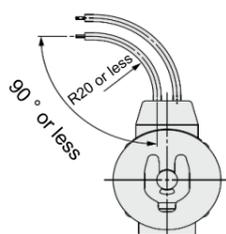

Figure 1. Lead wire bending
- Do not bend the lead wires beyond 90° with a radius of less than 20mm or damage may occur. See figure 1.